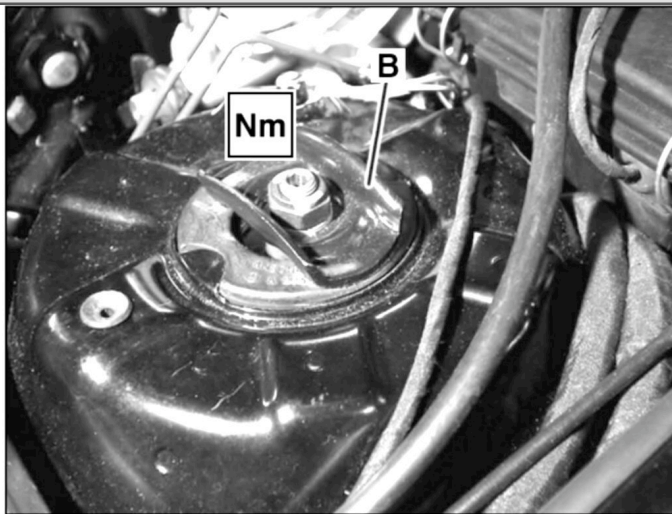

Figure 2
4. Measure clearance between the rebound stop (Figure 2, B) and the Rubber ring. If the clearance is below 1 mm, then the rebound stop (Figure 2, B) must be replaced.